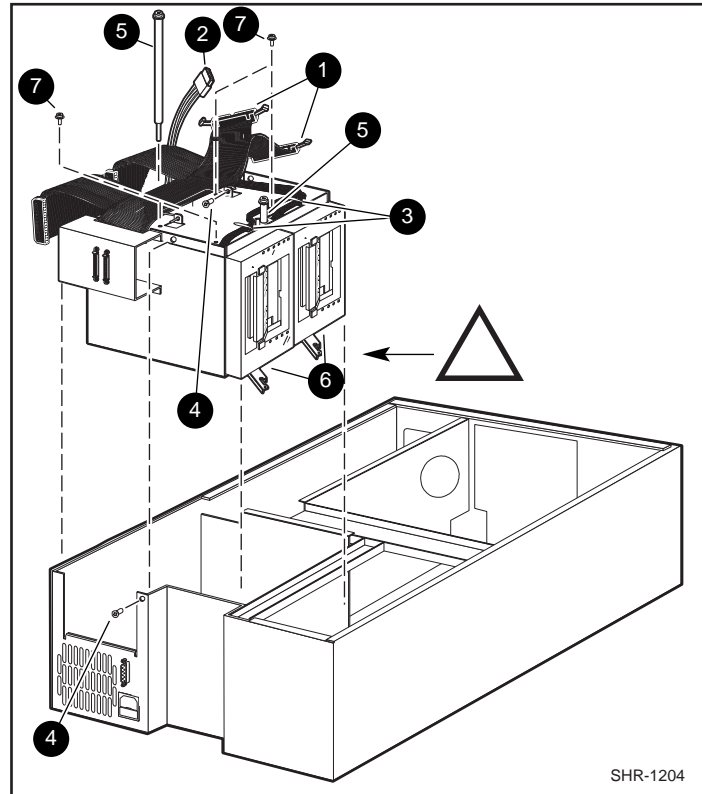

Figure 4. Drive Caddy Assembly Parts
2. Disconnect the SCSI cable connectors (1) (Figure 4) from the controller SCSI extension cable.
1. Grasp the drive caddy assembly by the handle and lower it into position in the base module; orient it as shown in Figure 4, and be careful the door levers don't bump against the chassis crossbrace.
2. Replace the two M4 extension screws (5) at the top of the assembly
3. Coat the threads of the two M4 x 8mm flat-head Phillips screws (4) with Loctite 222, and replace them on the upper edge of the drive caddy assembly.
4. Connect the drive 1 and drive 2 RS-422 cables (3) to the controller PWB.
5. Connect the drive power cable (2) to the power supply connector.
6. Connect the SCSI cable connectors (1) to the controller SCSI extension cable.
1. Remove the four 6-32 sems pan-head Phillips screws (7) that hold the blank panel in place in the drive caddy assembly; there are two on the top of the assembly (Figure 4) and two on the bottom of the assembly.
5. Slide the drive (6) into the drive caddy assembly; position the drive so the threaded holes in the top and bottom of the drive are aligned with the screws holes.